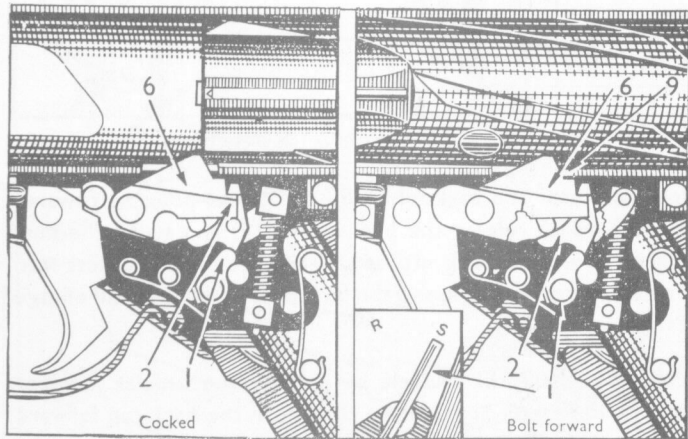

Fig. 7. Applied Safety
**5.3 APPLIED SAFETY** (Fig. 7, Cocked). When with the weapon cocked, the change lever (1) is set at safe S the inner arm of the change lever is positioned directly under the short arm of the tripping lever (2). When the trigger is pressed the sear cradle and sear (6) cannot be depressed because the short arm of the tripping lever is held immovable by the inner arm of the change lever.
(Fig. 7, Bolt forward). When with the bolt forward, the change lever (1) set at safe S, the weapon cannot be cocked because the sear (6) is engaged in the safety slot (9) at the rear of the bolt, and the sear cannot be depressed because it is held immovable as described in previous paragraph.